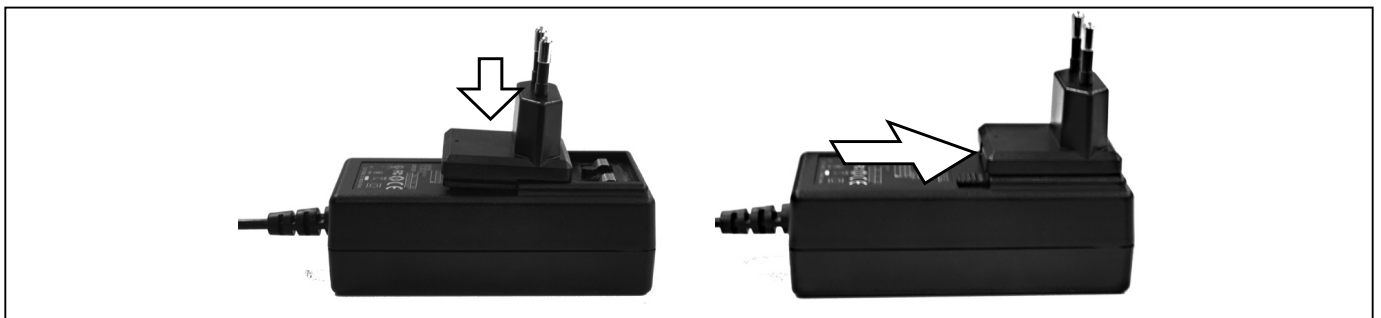

Fig. 2 Push on the power supply unit adapter
3. Connect the supplied power supply unit of the central water supply to the mains supply (230/110 V AC) (3). The power supply unit provided is equipped with adapters for various socket types, which automatically adjust the power supply unit to the correct input voltage. Push the appropriate adapter, as shown in Fig. 2 on to the power supply unit.